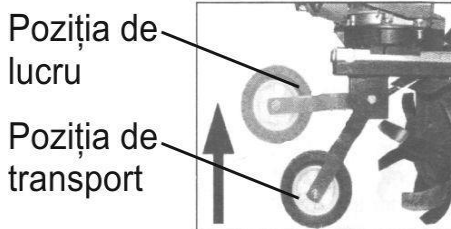

Fig. 4
- Raise the transport wheel in the working position (Fig. 4)
To move the machine, move the transport wheel down (Fig.4).
The transport wheel (Fig.4) is used to facilitate the transport of the machine from one place to another. Before starting work, place the wheel in the highest position.